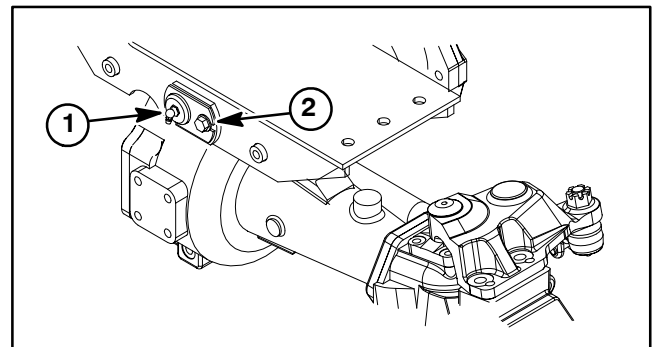

Figure 11
11. Remove lock nut and washer from pivot pin that attaches rear axle to rear frame mount. Remove washer head screw that secures flange of pivot pin to frame mount (Fig. 11).
2. Install axle pivot pin to secure axle to rear frame mount. Install washer and lock nut onto pivot pin. Tighten lock nut and then loosen it slightly to allow the axle pin to pivot freely. Secure pivot pin with washer head screw (Fig. 11).